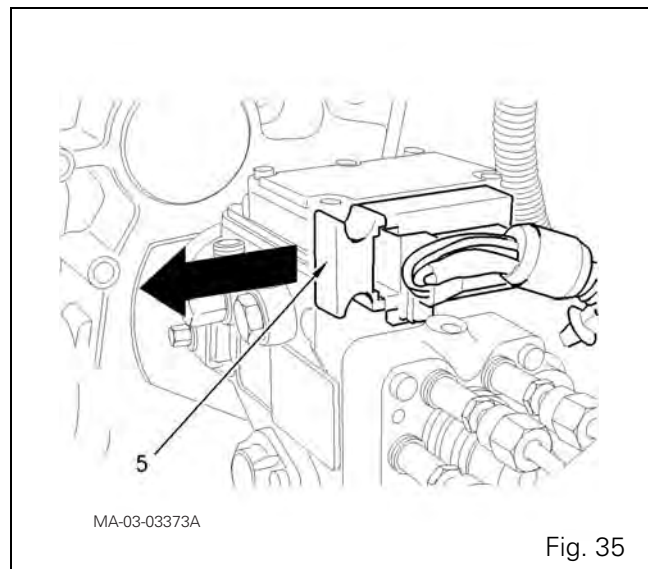

Fig. 35
178. Disconnect the electrical connector (5) (Fig. 35). Pull it to disconnect its locking mechanism. Take care not to damage the connector pins.